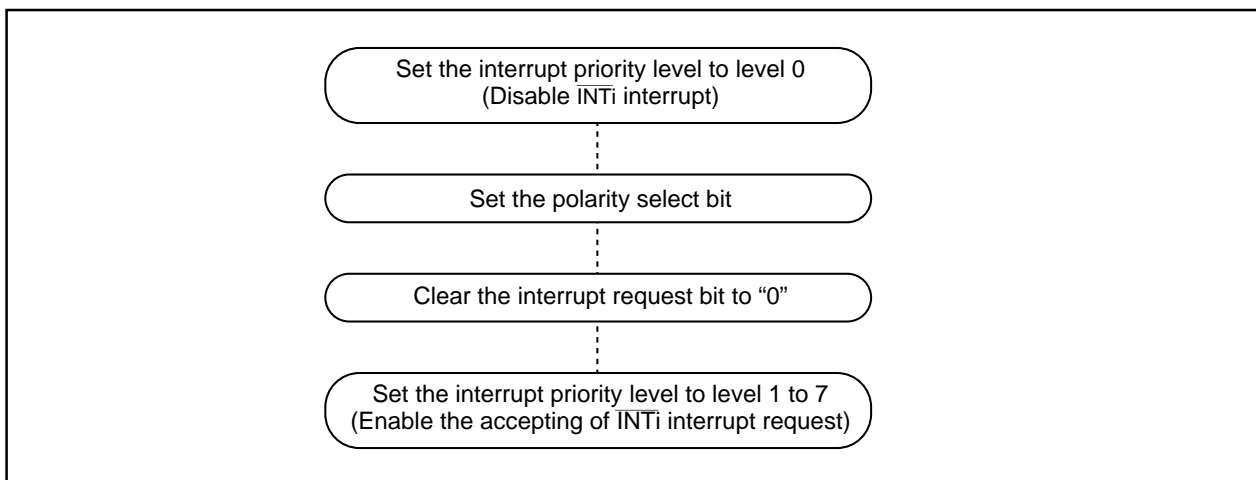

Figure 1.31.2. Switching condition of \overline{INT} interrupt request
- When the polarity of the \overline{INT}_0 to \overline{INT}_5 pins is changed, the interrupt request bit is sometimes set to "1". After changing the polarity, set the interrupt request bit to "0". Figure 1.31.2 shows the procedure for changing the \overline{INT} interrupt generate factor.